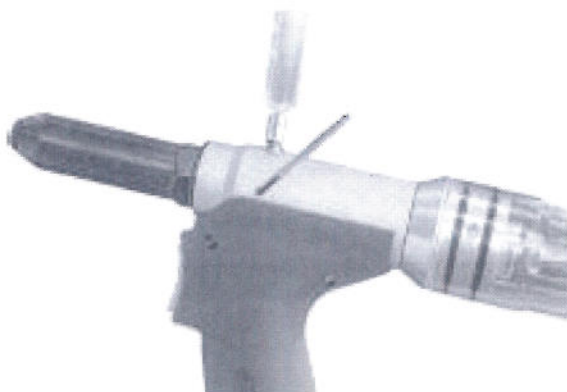

Fig 4
Please use the supplied priming pump as shown (fig. 4)
3. Screw the priming pump of filled oil into the bleed screw hole. Actuate the priming pump by pressing down and releasing several times until resistance is felt. (Fig. 4)